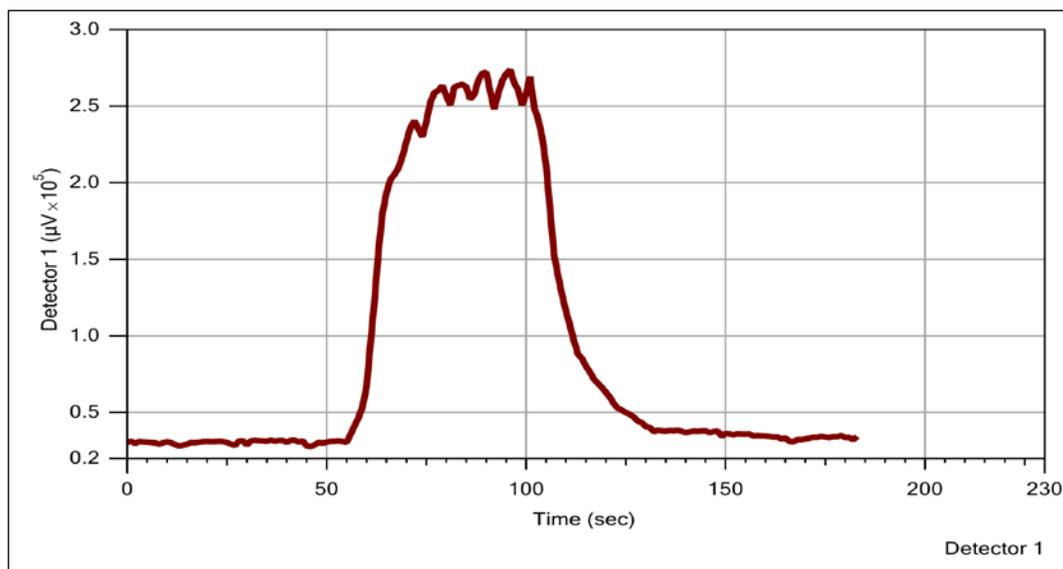

Figure 5.2: SRI PID Response Test - 10 ppm Benzene.
5. The chemical response trip time can be determined from the results on the Pre-Log Response Test. Using Fig. 5.2 the trip time would be approximately 55 seconds. Additional typical response test graphs are located in Appendix I.
7. Perform the chemical response test (Section 5.1.2) and record the height of the peak response and the trip time into a field notebook. Refer to Figure 5.2 and Appendix III.